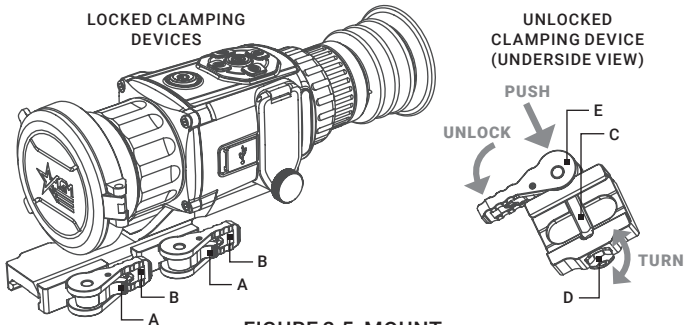

FIGURE 2-5. MOUNT
To install the Rattler on a Picatinny/Weaver rail, perform the following (Figure 2-5):
2. With the clamping device unlocked (as shown in Figure 2-5), push the cam (E) towards the arrow, which will cause the nut (D) to slide out of its hole.
3. To tighten/ loosen the clamping device, push down on the cam (E) and turn the nut (D) CW/ CCW respectively, in one-two increments (see note below). Much like when the cam (E) is released, backward-moving spring will cause the nut (D) to slide back into its hole.